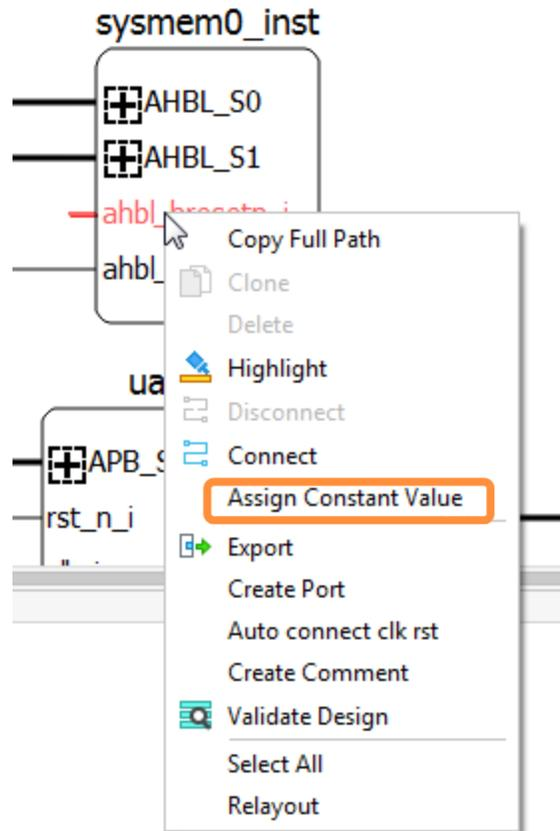
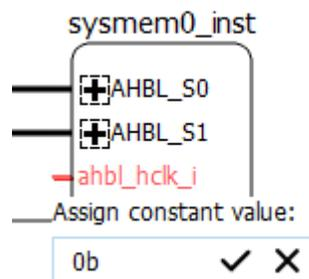

Figure 2.36. Show Action Menu of Right-clicking an Input Pin
Figure 2.37. Dialog Box of Assigning Constant Value to an Input Pin
- a. Select the desired pin and right-click the pin. Choose **Assign Constant Value** (Figure 2.36). A small dialog box appears (Figure 2.37).